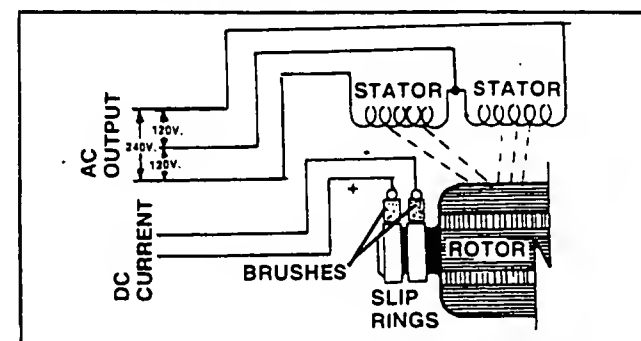

Figure 4. A More Sophisticated Generator
In Figure 4, direct current (DC) is delivered to the ROTOR coil through CARBON BRUSHES and SLIP RINGS, to create a magnetic field around the ROTOR. The greater the current flow through the ROTOR windings, the stronger the magnetic field around the ROTOR. The ROTOR's magnetic field cuts across the stationary STATOR windings, to induce a voltage into those windings, with the induced voltage proportional to the strength of the ROTOR's magnetic field.